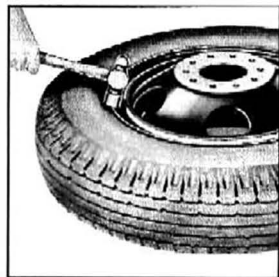

Fig. 68—Releasing Tire Clamp Ring
2. Using a hammer, tap around the side ring progressively to move it in toward the center of the rim until it clears the clamp ring (fig. 68).